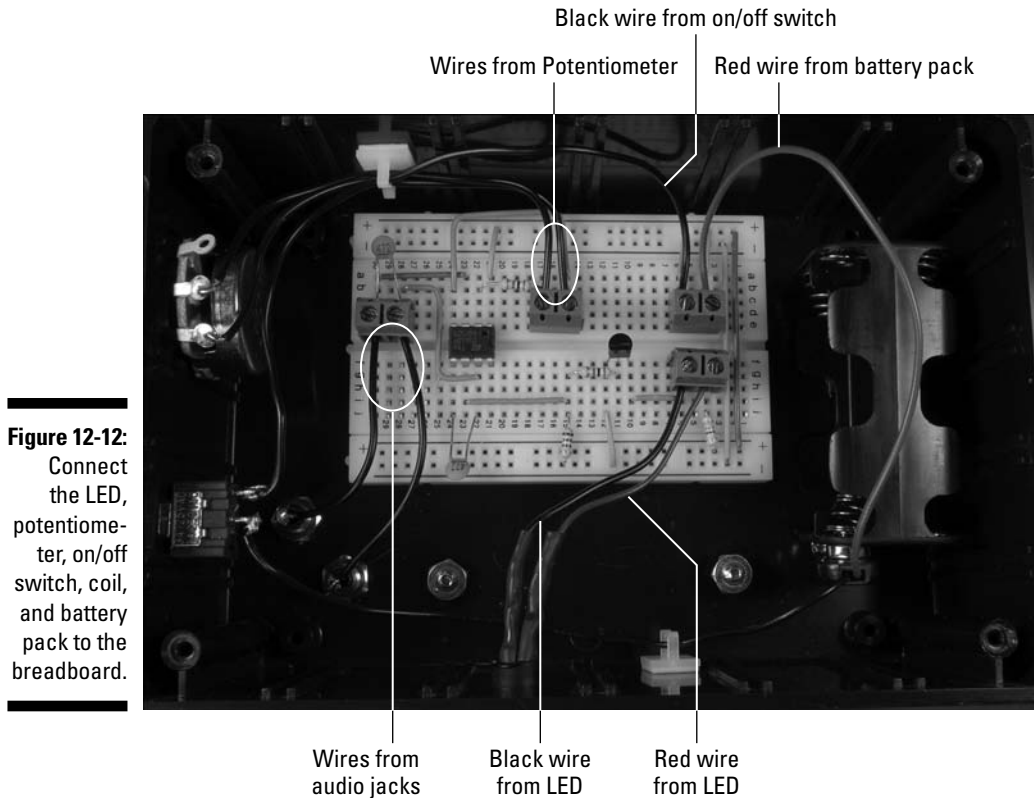

Figure 12-12:
3. Insert the wires from the LED, potentiometer, on/off switch, and battery pack to the terminal blocks on the breadboard, as shown in Figure 12-12.